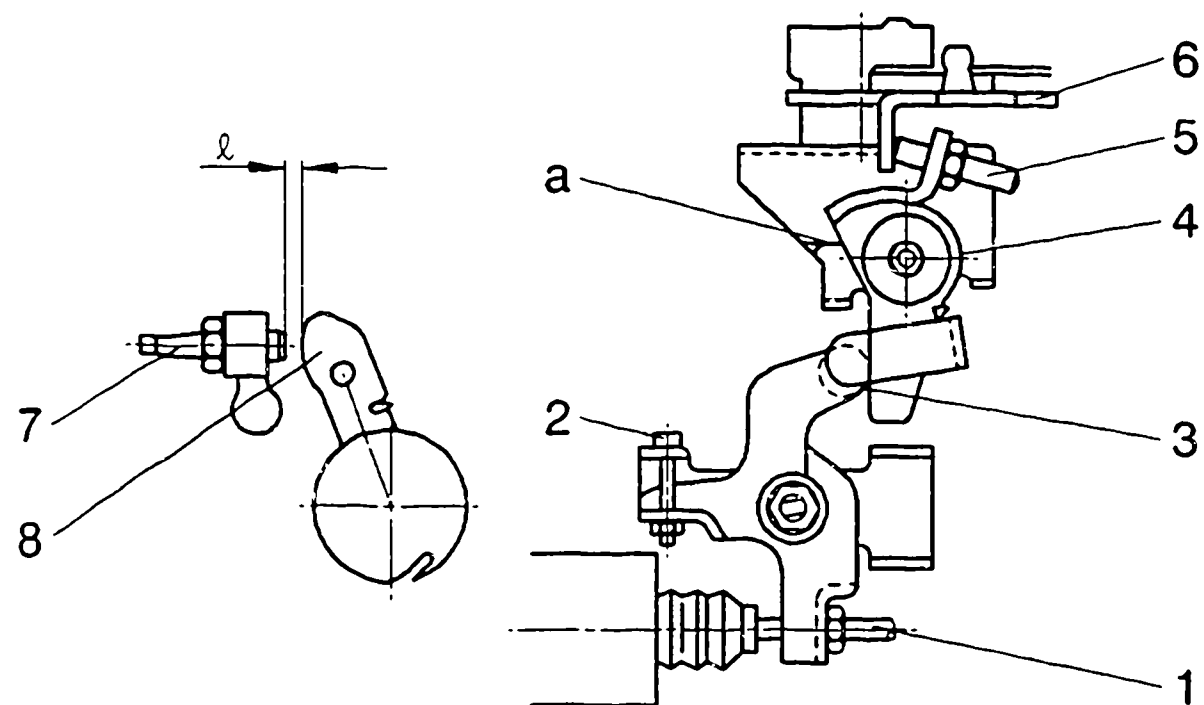

Fig. 36
2. Setting the intermediate lever position (see figs. 36 and 37)
3. Setting the W-CSD (KSB) lever (see figs. 36 and 37)